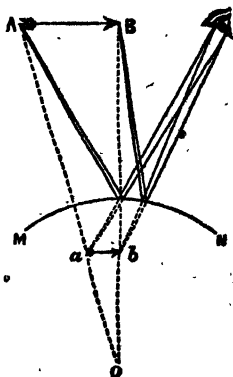

FIG. 8.
2. When the mirror is convex, the image will be placed as in Fig. 8, and is less than $A B$ in the proportion $b O$ to $B O$. It is here virtual.